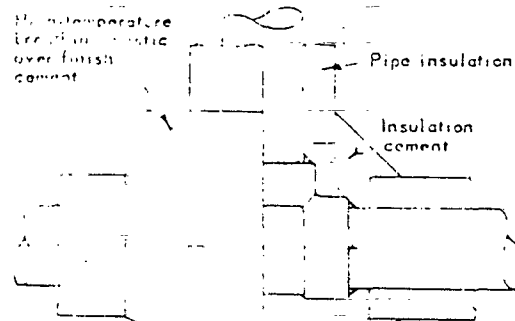

FIGURE 5
1. Welded fittings and valves of 2 inches or less, and screwed fittings and valves of all sizes shall be insulated with Insulation Cement, Code 702 or Code 502.1, to a thickness equal to the adjacent pipe insulation. See Figures 5 and 6.